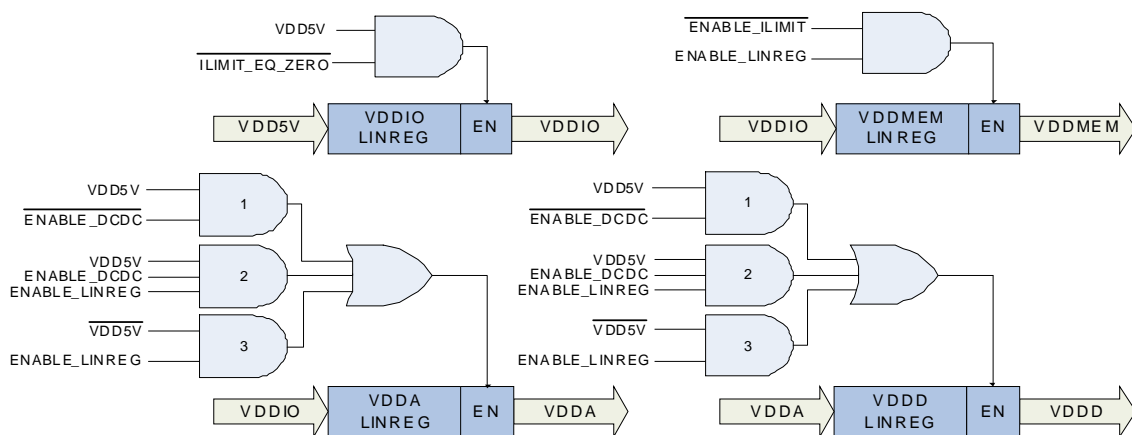

Figure 4. Enable logic for linear regulators
Figure 4 shows the power source and enable logic for the LinReg.
As shown in Figure 4, the logic to enable the VDDIO and VDD1P5 LinRegs is straightforward. In this case, only a single combination of bits is required to enable the LinReg. For the VDDD and VDDA power rails, three different combinations of bits are considered to enable the LinReg output—two combinations when VDD5V is present and the other when there is no supply on VDD5V source.
- The combination with the AND gate 1 in Figure 4 is the default configuration. In this case, the AND gate is triggered only when the ENABLE_DCDC is false and the VDD5V source is present. This means that the availability of the supply on VDD5V can activate or deactivate the corresponding LinReg without any software interaction.
- For the combination with AND gate 2 in Figure 4, the LinReg is activated when the VDD5V source is present, ENABLE_DCDC bit is true, and ENABLE_LINREG bit is true. When the VDD5V source is present and ENABLE_DCDC bit is true, the ENABLE_LINREG bit of the rail activates the LinReg. Note that the DC-DC converter is active at the same time because the ENABLE_DCDC bit is true.
- The combination with the AND gate 3 in Figure 4 occurs only when there is no supply on VDD5V. Here, the VDDD and VDDA LinRegs are enabled by setting the ENABLE_LINREG bit.